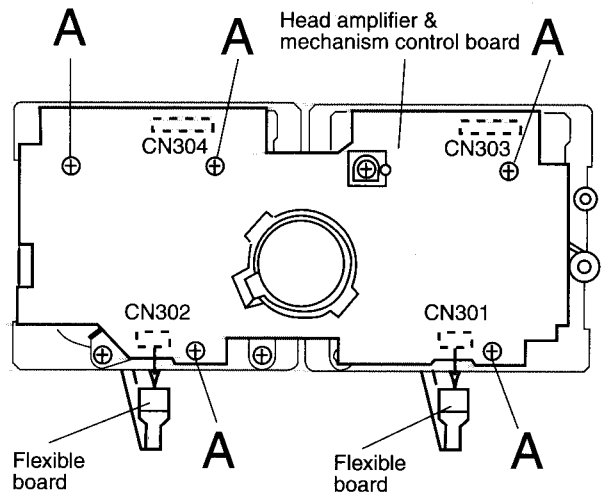

Fig.4
■ Removing the head amp.and mechanism control P.C.board (See Fig. 4)